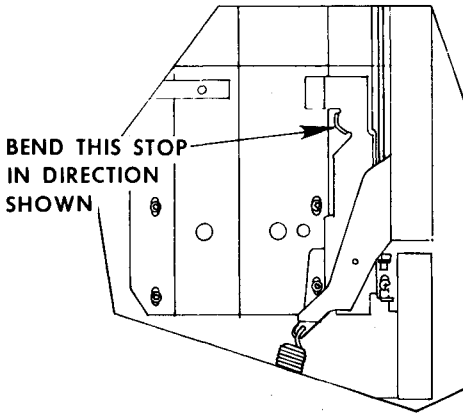

Figure 3 - Rack "Roll-In" Correction GE PermaTuf Models
6. Adjust the door hinge stops on each side to allow the door to open more fully. See Figure 3. Bend the lower portions of the stops upward.